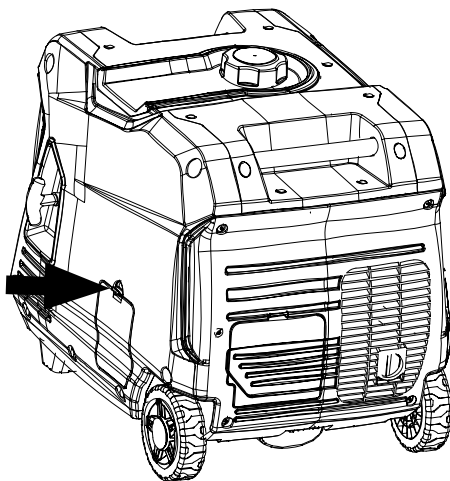

Figure 3: Oil service panel
1. Unclip and remove the oil service panel to access the oil fill/drain plug (see Figure 3).